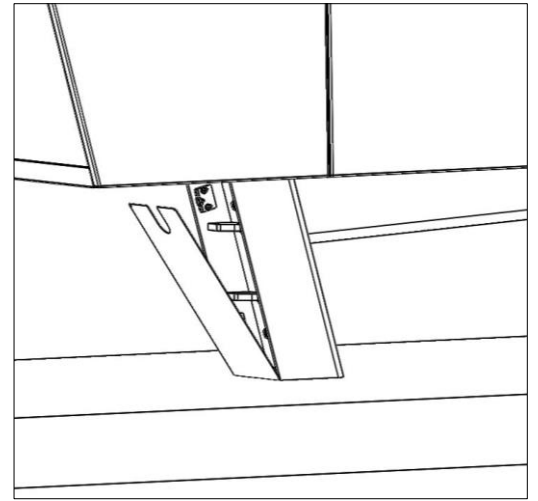

Fig. 5.2
5.2.2) Fig. 5.2 shows power routing hole up for no power option